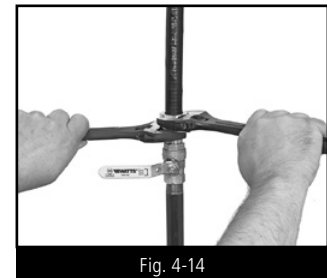

Fig. 4-14
**STEP 5 WRENCH FITTING (FIG. 4-14)**